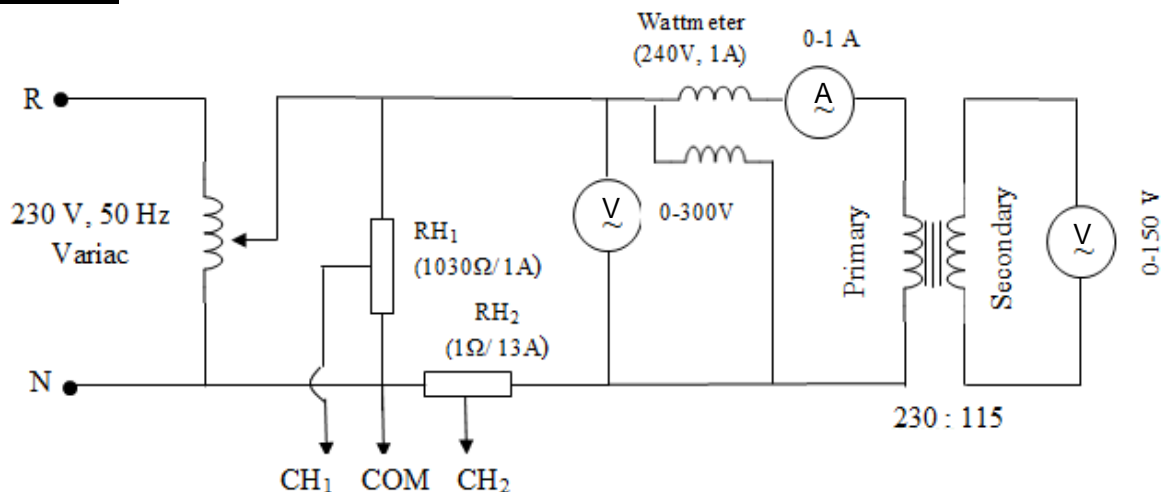

Figure 04: Open Circuit Test Circuit Diagram
1. Connect the circuit as shown in Figure 04. (Do not connect the C.R.O. probes to the circuit until the instructor checks the circuit.)